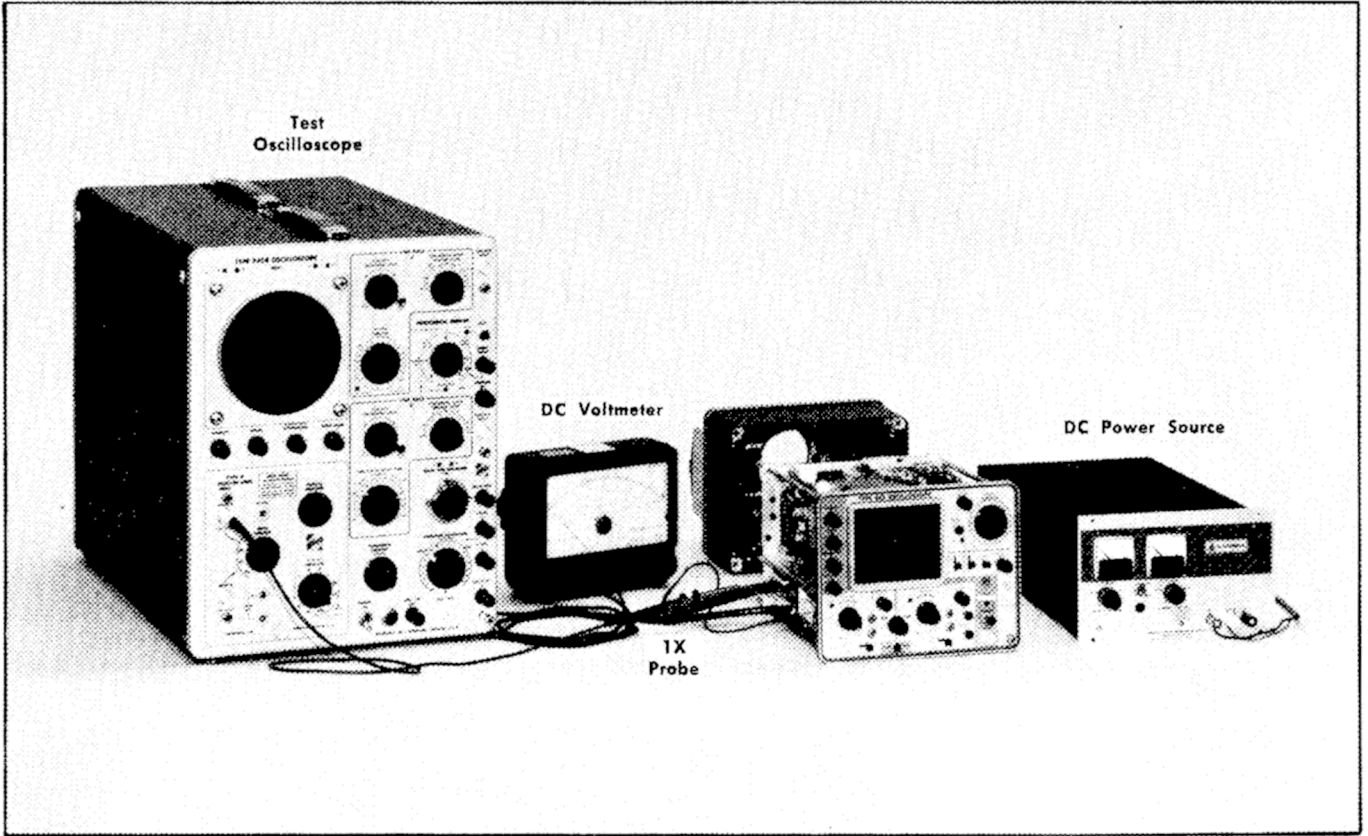

Fig. 6-6. Test equipment setup for checking dc power supply regulation and taking power supply ripple measurements.
- a. Test equipment setup is shown in Fig. 6-6.